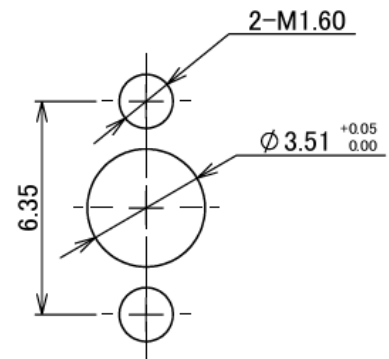

Fig.2 Product Dimensions
1. Refer to Figs. 2, 6, and 7 for the design of the JIG to which the inspection adapter is to be attached.